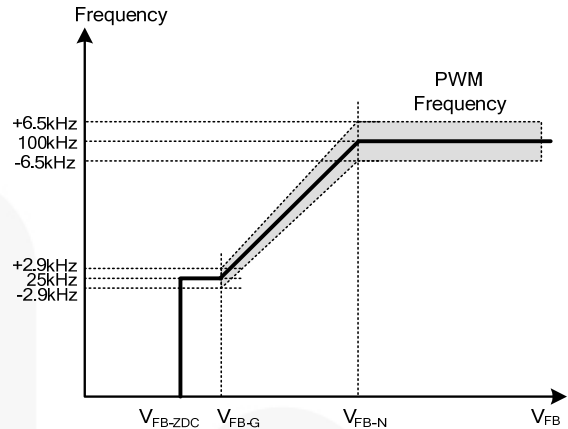
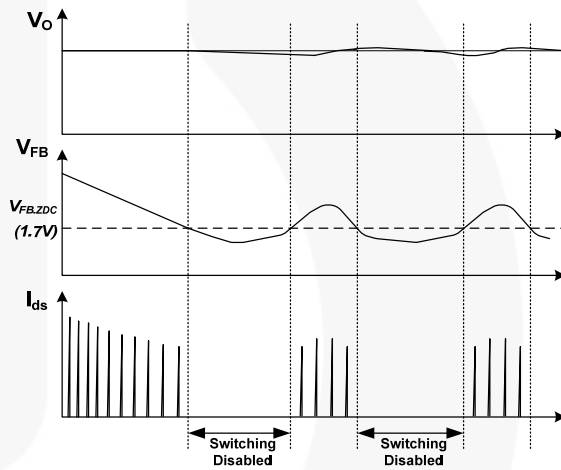

Figure 23. PWM Frequency
Figure 24. Burst-Mode Operation
The FAN6862H(HR) uses feedback voltage (V_{FB}) as an indicator of the output load and modulates the PWM frequency, as shown in Figure 23, such that the switching frequency decreases as load decreases. In heavy-load conditions, the switching frequency is 65kHz. Once V_{FB} decreases below V_{FB-N} (2.6V), the PWM frequency starts to linearly decrease from 100kHz to 25kHz to reduce the switching losses. As V_{FB} decreases below V_{FB-G} (2.1V), the switching frequency is fixed at 25kHz and FAN6862H(HR) enters “deep” Green Mode, where the operating current decreases to 2.5mA (maximum), further reducing the standby power consumption. As V_{FB} decreases below V_{FB-ZDC} (1.7V), FAN6862H(HR) enters Burst Mode. When V_{FB} drops below V_{FB-ZDC} , FAN6862H(HR) stops switching and the output voltage starts to drop, which causes the feedback voltage to rise. Once V_{FB} rises above V_{FB-ZDC} , switching resumes. Burst Mode alternately enables and disables switching, reducing switching loss in standby mode, as shown in Figure 24.